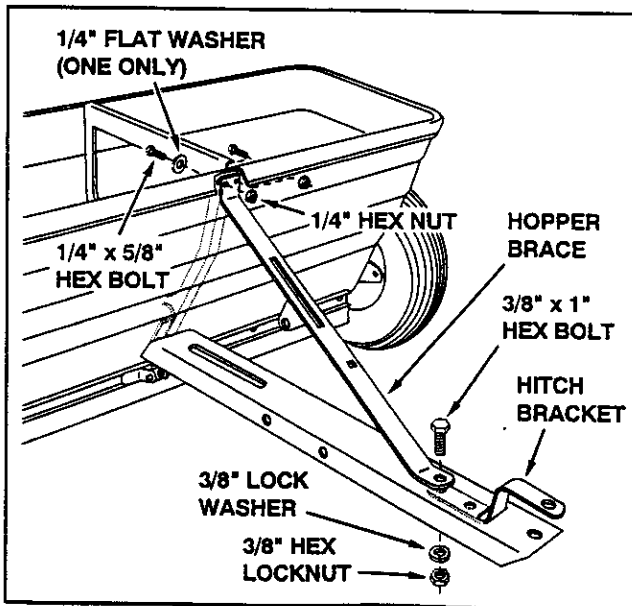

FIGURE 2
- Attach the hopper brace to the hopper using two 1/4" x 5/8" hex bolts, one 1/4" flat washer and two 1/4" hex nuts. **Do not tighten yet.** See figure 2.
- Place the end of the hitch bracket (two holes) down through the slot in the tongue. Attach the hopper brace to the top of the tongue and the hitch bracket to the bottom using one 3/8" x 1" hex bolt, 3/8" lock washer and 3/8" hex lock nut. **Tighten all bolts assembled so far.** See figure 2.